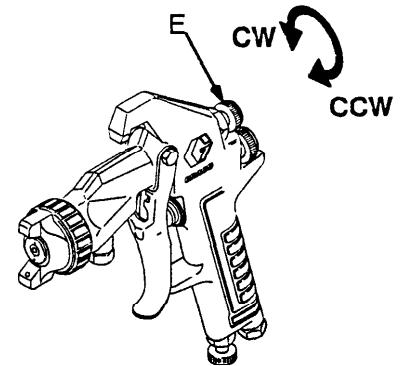

Fig. 9
3. Be sure the gun's fan pattern adjusting valve (E) has been turned OUT fully clockwise and then turned IN two full turns. See Fig. 9.
7. Adjust the fan pattern adjusting valve (E) to fine tune the spray pattern. Turn *counterclockwise* to widen spray pattern. Turn *clockwise* to narrow spray pattern. See Fig. 9.